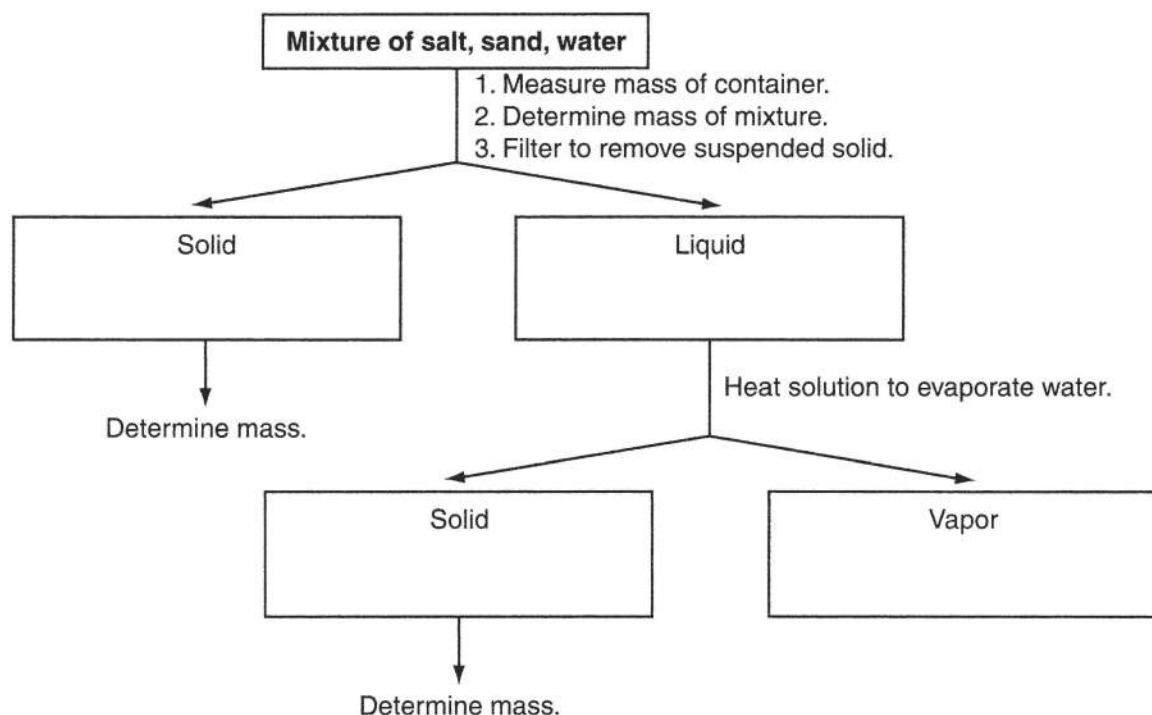

Figure 1.
listed next to the arrows. Imagine a sample of seawater that has been collected at the beach. There is a liquid layer, consisting of dissolved salt in water, and solid sand particles suspended in the liquid. How can these components be separated? The flow chart in Figure 1 shows one possible method for the separation and recovery of the components in our hypothetical seawater sample.
1. Think about the separation process outlined in Figure 1 and complete the flow chart to reveal the identities of the solid, liquid, and vapor components.